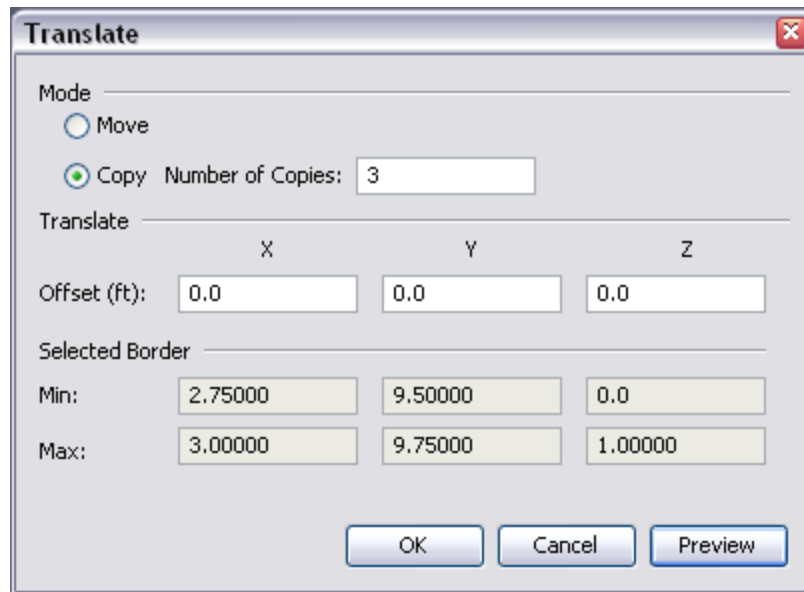

Figure 113. The move dialog
3. This will show the Move dialog, Figure 113.